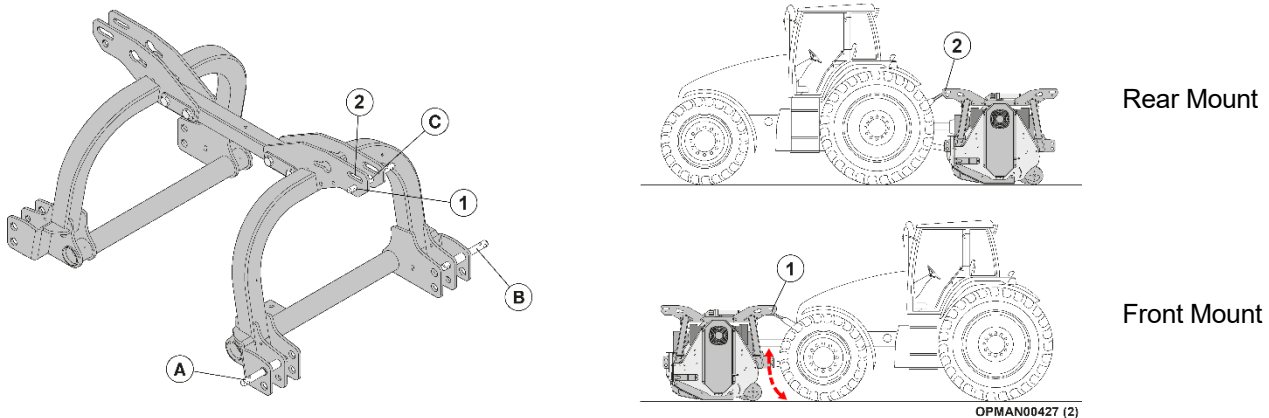

Figure 8
Proceed as follows for the coupling (see Figure 8):
- A fixed hole (ref Figure 8 (1)); which should be used for all transport purposes and front mount working purposes.
- A slotted hole (ref Figure 8 (2)); which should be used for rear mount working purposes.
The fixed hole (ref Figure 8 (1)) should be used during transport purposes when the machine is out of work and is required to be lifted off the ground. The fixed hole ensures the machine remains as stationary as and will not move when it's carried by the tractor off the ground.
The fixed hole (ref Figure 8 (1)) should be used when the machine is operating at work. It is important that the **front linkage of the carrying tractor is put into float** to allow the machine to follow ground contours, giving better operation and finish of the cut material.
The fixed hole (ref Figure 8 (1)) should be used during transport purposes, when the machine is out of work and is required to be lifted off the ground. The fixed hole ensures the machine remains as stationary as possible and will not move when its carried by the tractor off the ground.
The slotted hole (ref Figure 8 (2)) should be used when the machine is operating at work. The slotted hole allows the machine to follow ground contours more effectively, giving better operation and final finish of the cut material.